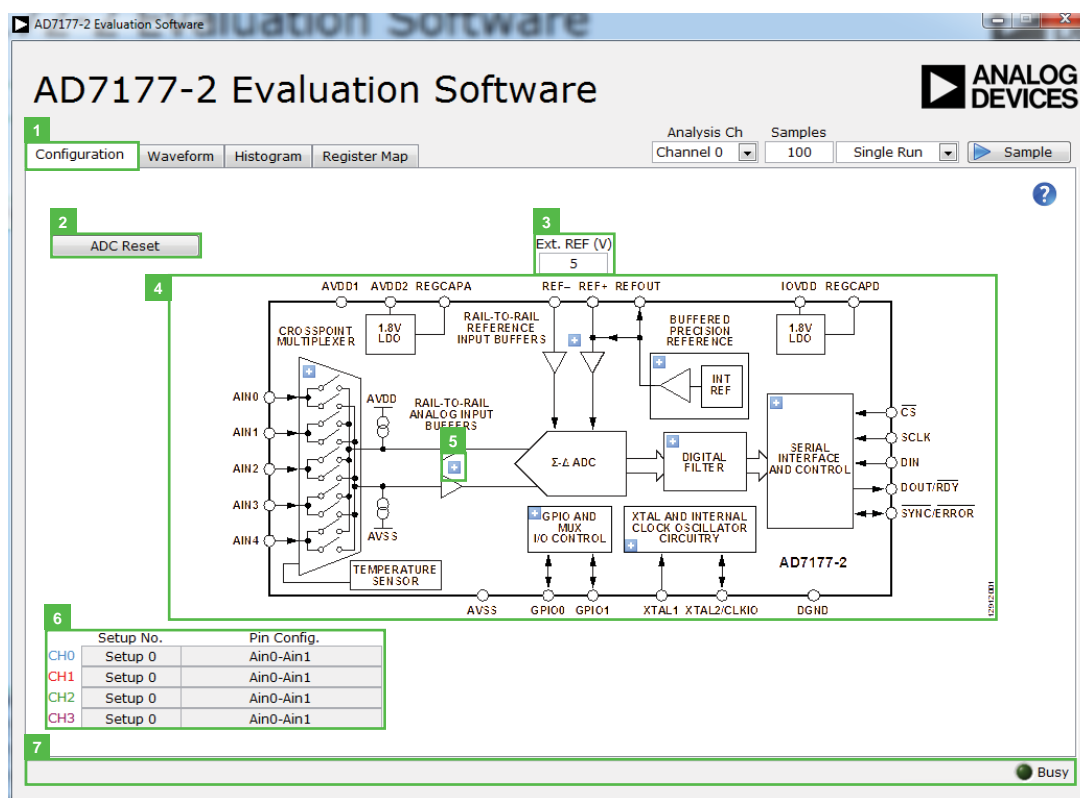

Figure 7. **Configuration** Tab of the AD7177-2 Evaluation Software
1. From the **Start** menu, click **Programs**, **Analog Devices**, then **EVAL-AD7177-2SDZ**. The main window of the evaluation software displays (see Figure 7).
The main window of the software displays the significant control buttons and analysis indicators of the AD7177-2 evaluation board software (see Figure 7). This window is divided into four tabs: **Configuration**, **Waveform**, **Histogram**, and **Register Map**.
See Figure 7 for the **Configuration** tab.
To exit the software, click the **Close** button at the top right corner of the **AD7177-2 Evaluation Software** window (see Figure 7).